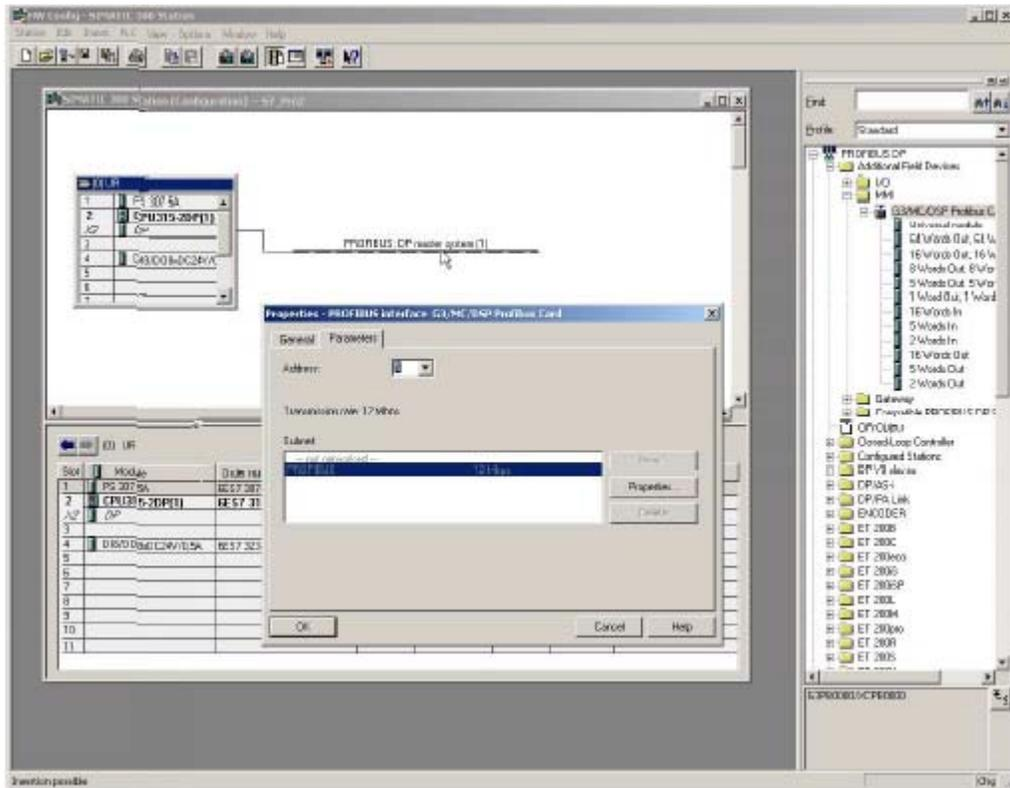

FIG. 58: Add Graco Gateway to Profibus Network
In the properties window that popped up, select the Profibus address the Gateway will take on the network. This address should be unique. In this example, the Gateway will take address 5. FIG. 58. Click OK.
**NOTE:** For the formula to work, all the blocks in the PLC Profibus configuration for the Gateway have to be consecutive. FIG. 58.